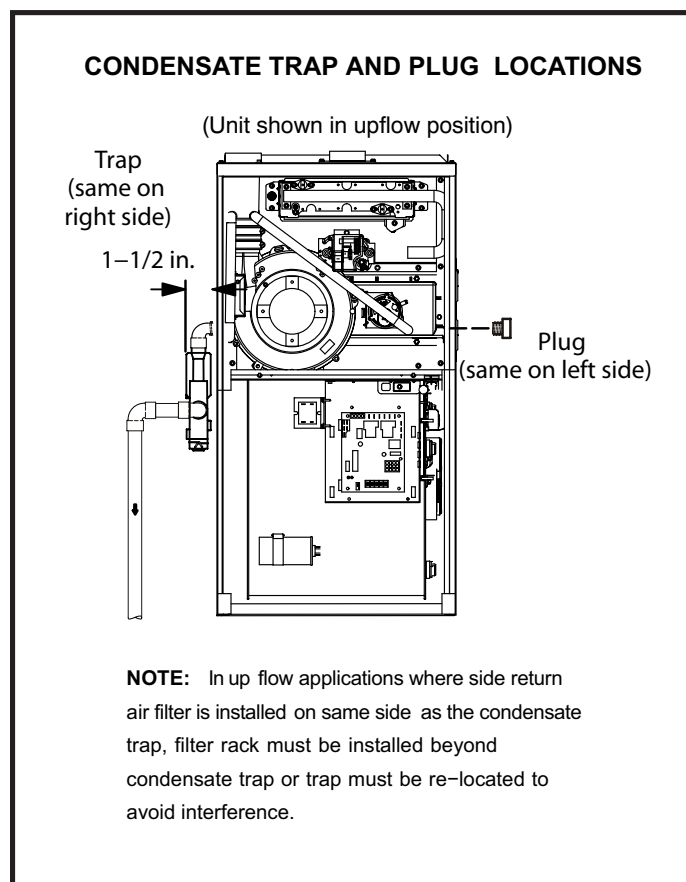

Figure 43
This unit is designed for either right or left side exit of condensate piping in upflow applications. In horizontal applications, the condensate trap must extend below the unit. An 8" service clearance is required for the condensate trap. Refer to Figure 43 for condensate trap locations.
2. Remove plug (Figure 43) from the cold end header box at the appropriate location on the side of the unit. Install field-provided 1/2 NPT male fitting into cold end header box. Use Teflon tape or appropriate pipe dope.